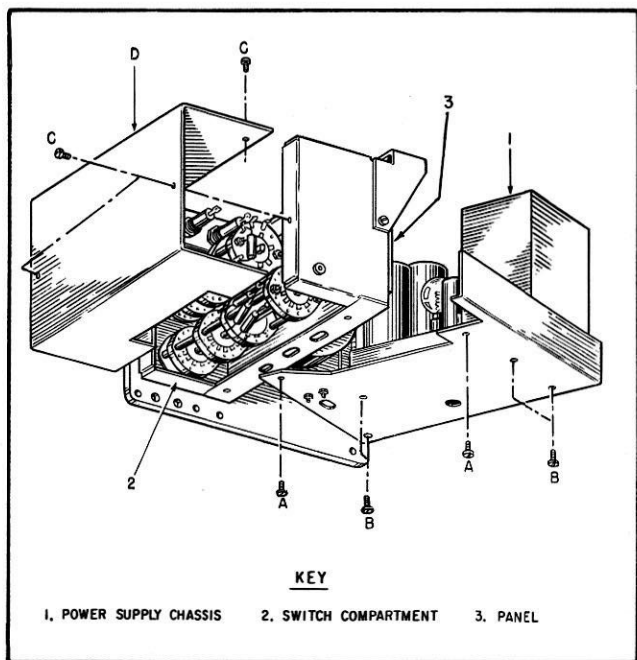

Figure 5-2. Electronic Multimeter AN/USM-116,
- (1) Remove two screws (A, figure 5-2) from underside of the chassis assembly. Swing the hinged